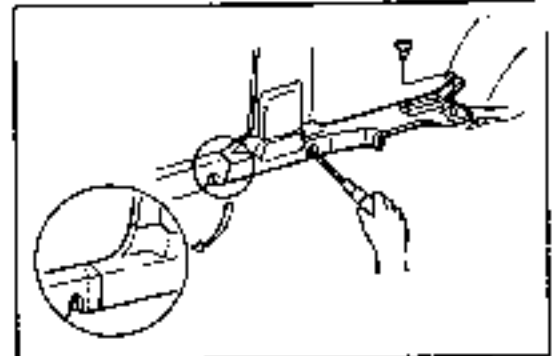

Fig. 9-287
1. Remove the rear door scuff plate. (See Fig. 9-287)
2. Remove the one screw and two clips (A).
3. Detach the four clips (B), using a common screwdriver.